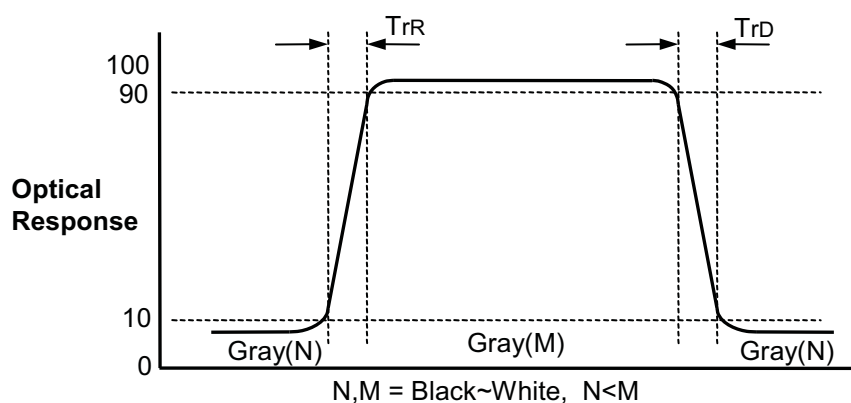

FIG. 10 Response Time
4. Response time is the time required for the display to transit from G(N) to G(M) (Rise Time,  $Tr_R$ ) and from G(M) to G(N) (Decay Time,  $Tr_D$ ). For additional information see the FIG. 10. (N<M)